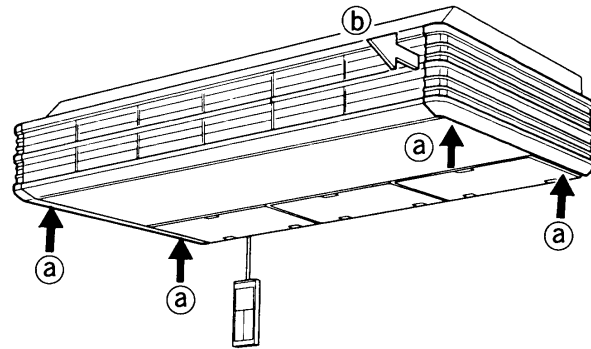

Fig. 1
- (1) Remove the four screws (a) of the cover plate on the underside.
- (2) Slide the side panels on both sides towards the front (b) of the unit in order to remove them. Fig 1